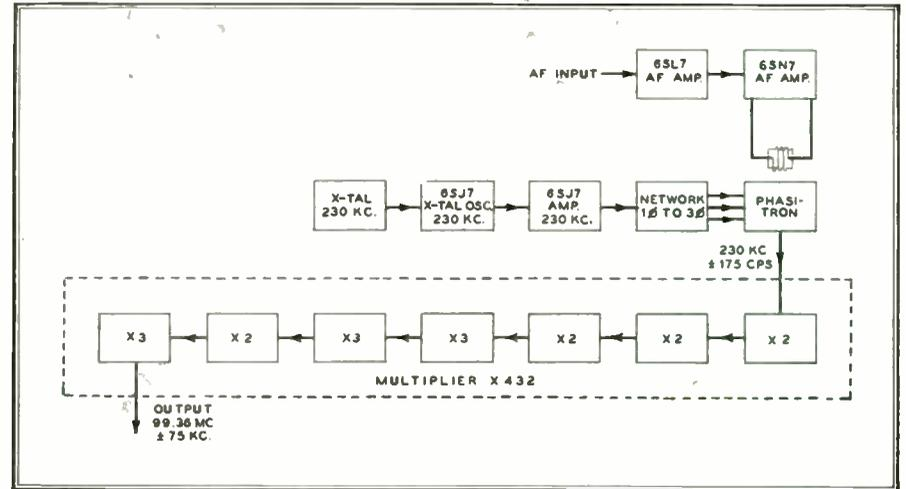

FIG. 1. BLOCK DIAGRAM OF AN FM TRANSMITTER USING PHASITRON MODULATION
**How the Phasitron Works** ★ Fig. 1 gives a block diagram of the General Electric FM transmitter using the Phasitron, while details of the tube are shown in Figs. 2 and 3. The tube works in this manner:
As Fig. 1 shows, the output of the crystal-controlled oscillator is amplified and fed into a phase-splitting network which converts the single-phase radio-frequency voltage to three-phase. This three-phase voltage is applied to the deflector grid, Fig. 4. Phase A connects to the grid wire group marked A, phase B to the B group, and phase C to the C group.
A coil in the output of the audio amplifier is placed around the Phasitron tube, as indicated in Fig. 1. The magnetic field resulting from current flowing in this coil is perpendicular to the plane of the electron disc. The electrons, travelling radially from the cathode toward the anodes through this field, have a force exerted on them in a direction perpendicular to their path and perpendicular to the direction of the magnetic field, causing audio fre-